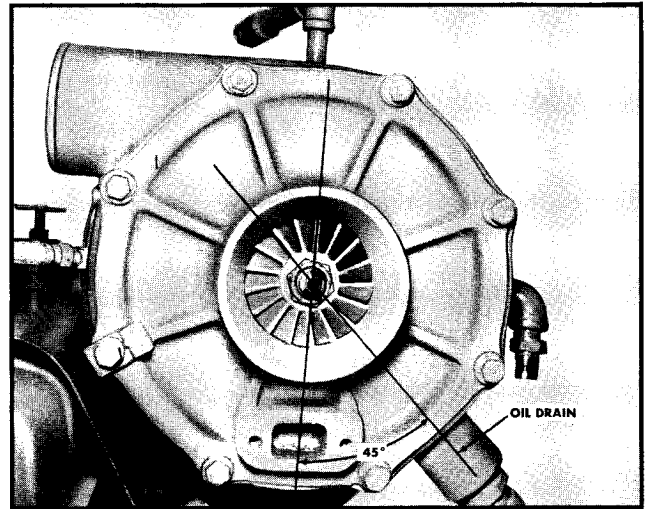

Fig. 12-69. Oil drain position
1. Assemble turbocharger with lube oil drain (large boss) down or within 45° of that position when turbocharger is mounted. Fig. 12-69.